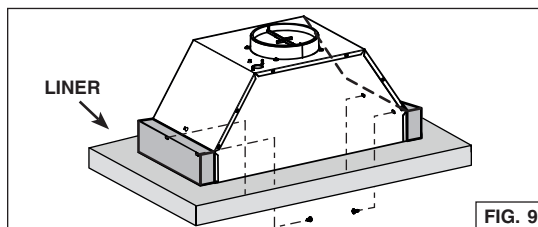

FIG. 9
7. For installation in a cabinet without bottom, insert the power module in the liner. Install 2 wood blocks having 2½" minimum height x 10¼" long (not included), on top of the liner and on left and right side of the power module. Secure the power module to the wood blocks using (4) wood screws included in parts bag (2 screws per side) (Fig. 9).
2. Reinstall wiring cover and attach it to the power module using its retaining screws (Fig. 9). Ensure its hook (shown in dotted line in inset) is well inserted in the power module wall (Fig. 13).